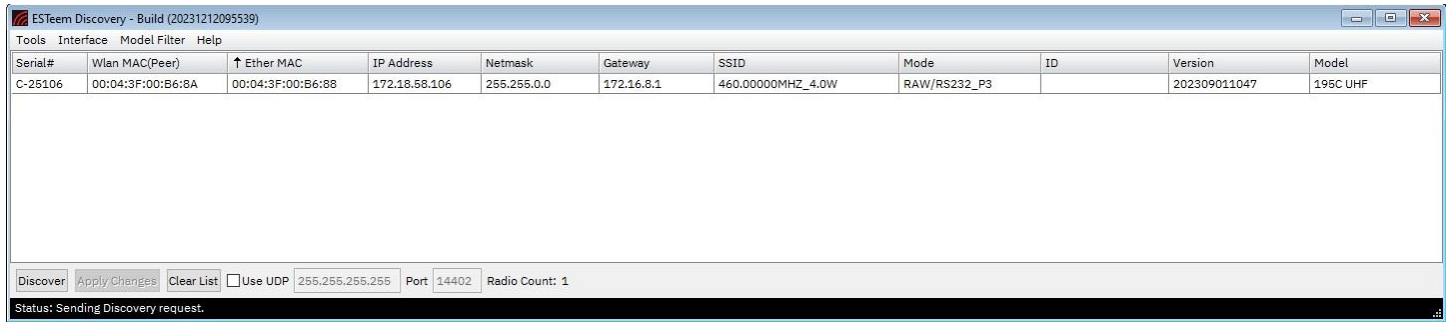

Figure 5: ESTeem Discovery Utility
1. Verify the basic hardware configuration from Chapter 2 and open the Discovery Utility (Figure 5). Press the *Discover* button to continue.
2. The ESTeem 195M/H/C will be displayed (Figure 5) in the Discovery. If the ESTeem 195M/H/C is not on the same IP subnet as the computer, double click on the IP address and Netmask to make the necessary changes. Press the Apply Changes button when complete.